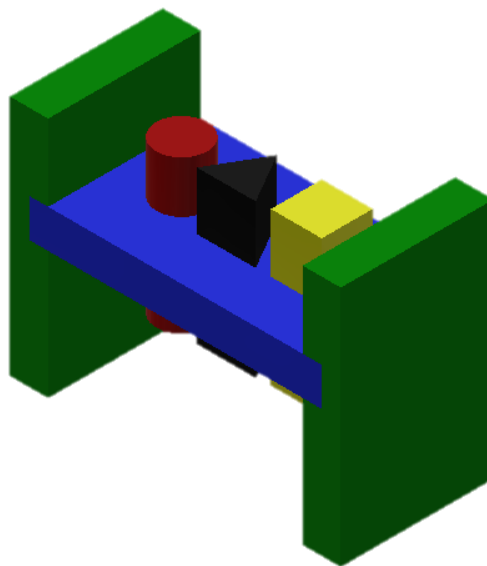

Figure 13 – Completed Pegboard Toy Assembly
- Change the color of the various components to make the toy more aesthetically pleasing. See Figure 13